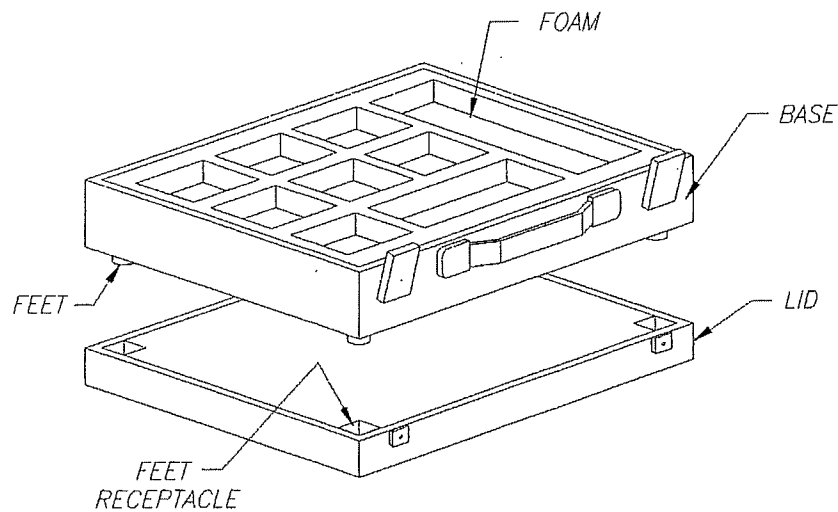

Figure 6: Operation of Stacking Lid Instrument Case
- c) Place base on lid (the feet on bottom of base fit into lid, see **Figure 6**).